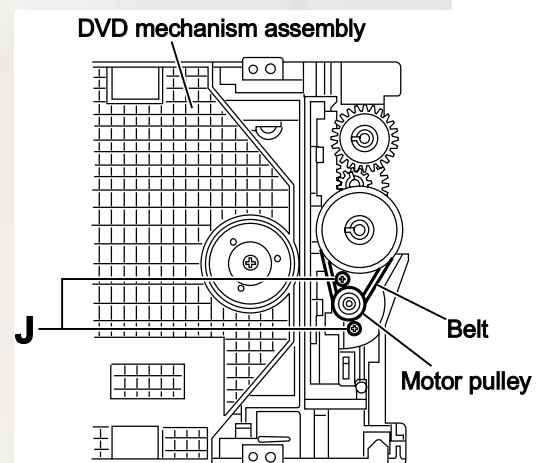

Fig.15
- (1) From the bottom side of the DVD mechanism assembly, remove the wires from the soldered section **n** on the switch board.
- (2) From the top side of the DVD mechanism assembly, remove the belt from the motor pulley. (See Fig.15.)
- (3) Remove the two screws **J** attaching the motor to the DVD mechanism assembly and take out the motor from the bottom side of the DVD mechanism assembly. (See Fig.15.)